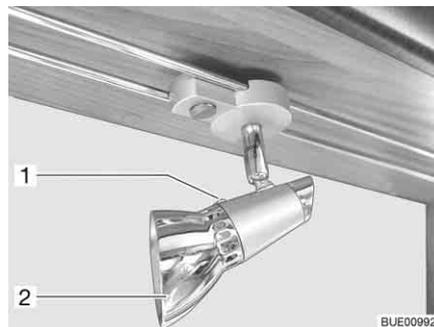

Fig. 221 Halogen spotlight (movable)
- Loosen the fixing screw (Fig. 221,1).
- Remove the lamp shade (Fig. 221,2).